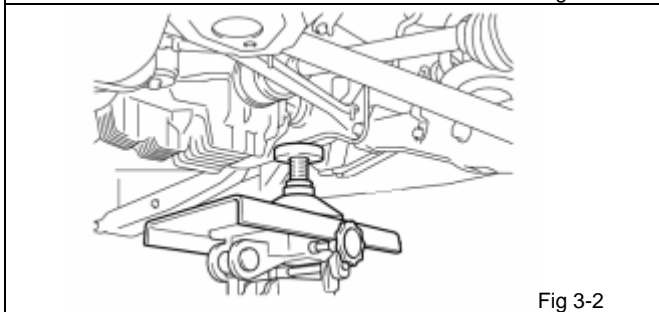

Fig 3-2
(1) Support the rear suspension member sub-assembly with a transmission jack or tall jack stand using a block of wood as shown in the illustration. (Fig 3-2)